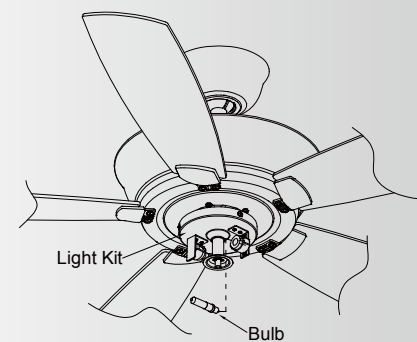

Fig. 24
Step 1. Install the 2, 75 Watt/ halogen lamps (provided) into each socket on the light kit. (Fig. 24)